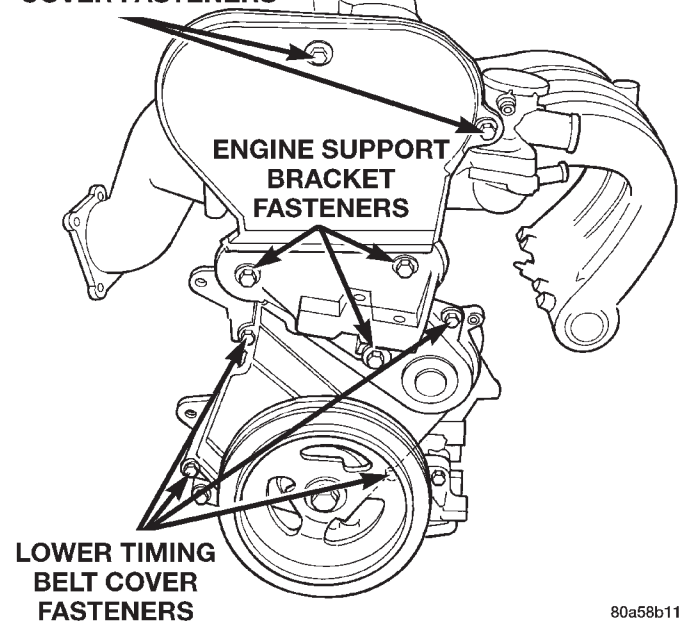

Fig. 56 Front Timing Belt Covers
- (1) Remove crankshaft damper. Refer to procedure in this section.
- (2) Remove generator belt idler pulley.
- (3) Remove front timing belt cover fasteners (Fig. 56) and remove covers.
- (4) Remove engine mount bracket (Fig. 56).
- (1) Install the engine mount bracket and front timing belt covers (Fig. 56).
- (2) Install generator belt idler pulley and tighten bolt to 54 N·m (40 ft. lbs.).
- (3) Install crankshaft damper. Refer to crankshaft damper installation for procedure.